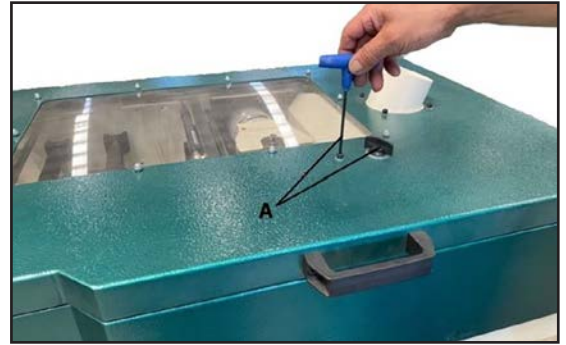

**Figure 38.** Location of top door components.
2. Remove the button head screw and turn door knob (A) clockwise to unlock the top door (see **Figure 38**).